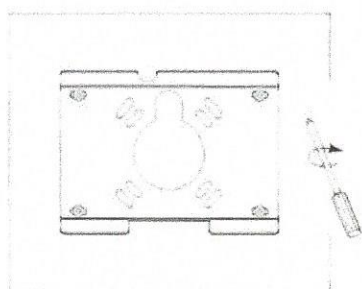

Figure 14
3.Align mounting bracket with hole; tighten screws. (Figure 14)